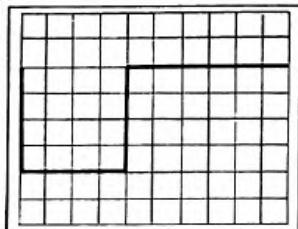

Fig. 1
- 2) Turn the slope level knob, and synchronize at the fall of pulse as shown in Fig. 1.